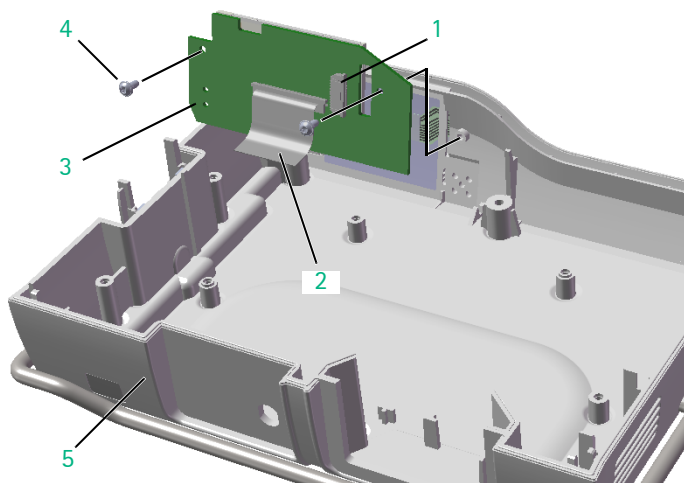

Fig. 3 - 24
4. To replace the connecting cable for the display board (Fig. 3 - 24 / Item 2), completely unlock the connector on the display board and pull out the ribbon cable.
5. To replace the housing, upper part (Fig. 3 - 24 / Item 5), the processor board has to be removed as well.